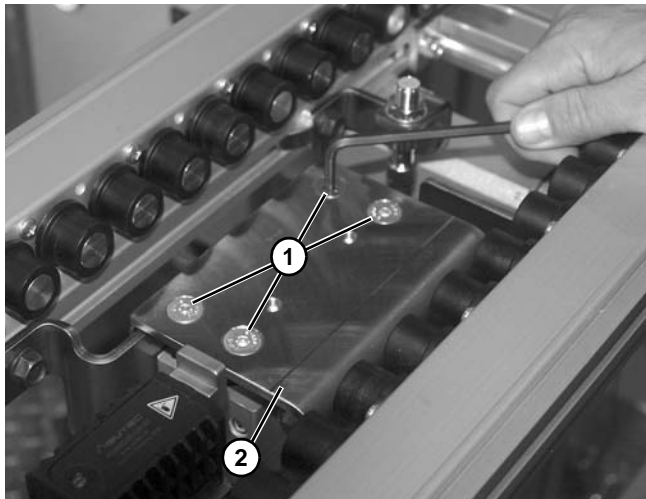

Figure 98
5. Remove four screws (Figure 98, item 1) holding mounting plate (Figure 98, item 2) onto lift cylinder assembly.